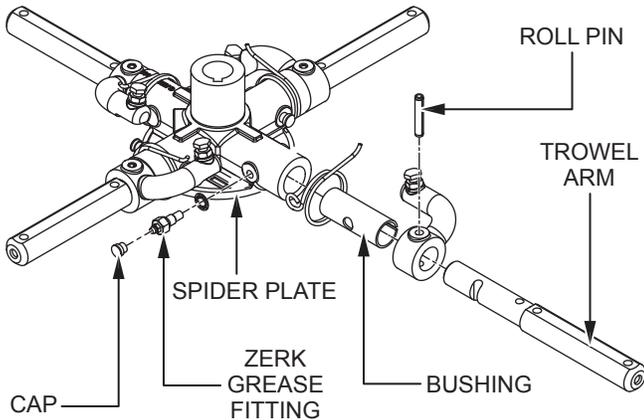

Figure 47. Trowel Arm Removal
1. Each trowel arm is held in place at the spider plate by a Zerk grease fitting (hex head bolt). Remove the Zerk grease fitting and the roll pin from the spider plate (Figure 47).
2. Remove the trowel arm from the spider plate (Figure 47).
3. Carefully remove the trowel arm bushing (Figure 47).